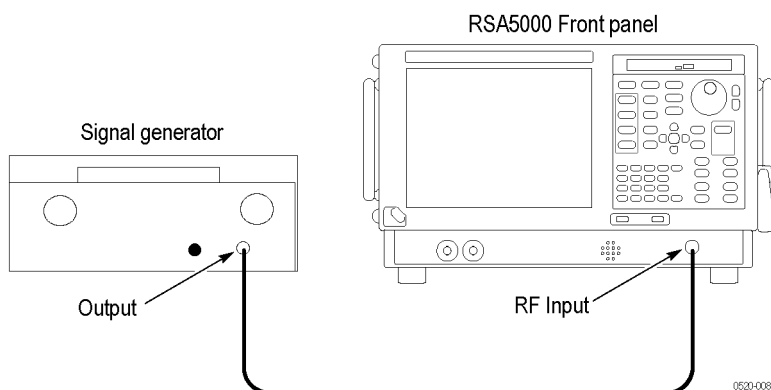

Figure 16: Equipment connections for Signal Spurious check
1. Connect the RF generator to the RSA5100A RF Input. (See Figure 16.)